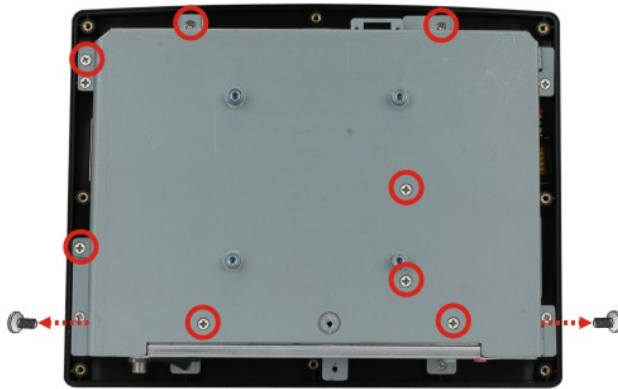

Figure 5-2: Aluminum Back Cover Retention Screws
Step 1: Remove the retention screws securing the internal aluminum cover (**Figure 5-2**).